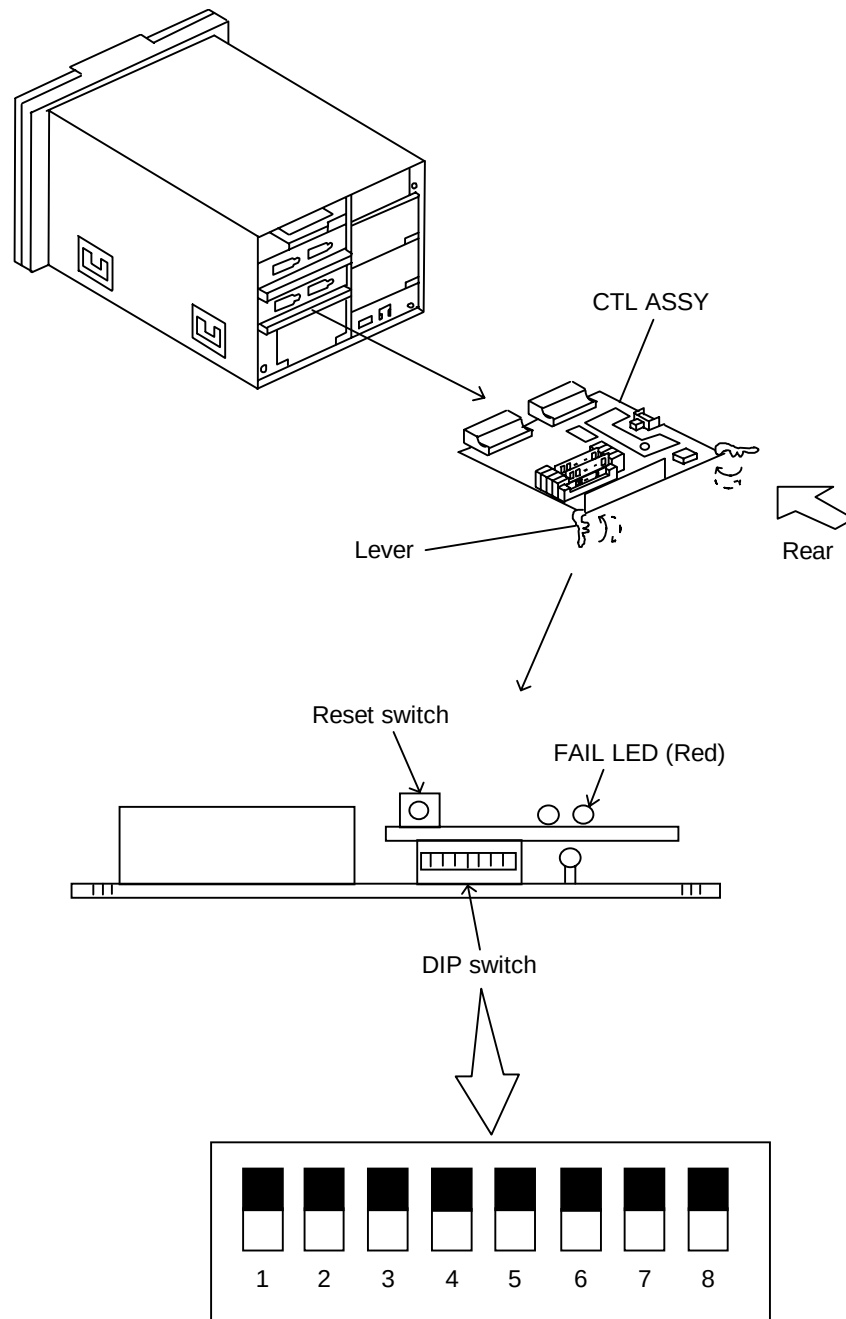

Figure 8.2.1 Replacing CTL ASSY
(1) Removing procedure
- ① First open the rear cover 1 and then the rear cover 2. (See RH-REP0170.)
- ② Disconnect the cables (RS232C).
- ③ Confirm the blocked CTL ASSY (with the FAIL LED turned on). (See Figure 8.2.1.)
- ④ Take out the CTL ASSY by pulling both levers on left and right side at the same time toward the directions shown by allows (·····➤)
- ⑤ Remove the CACHE ASSY. If the LAN ASSY is installed, also remove it.
(2) Installing procedure